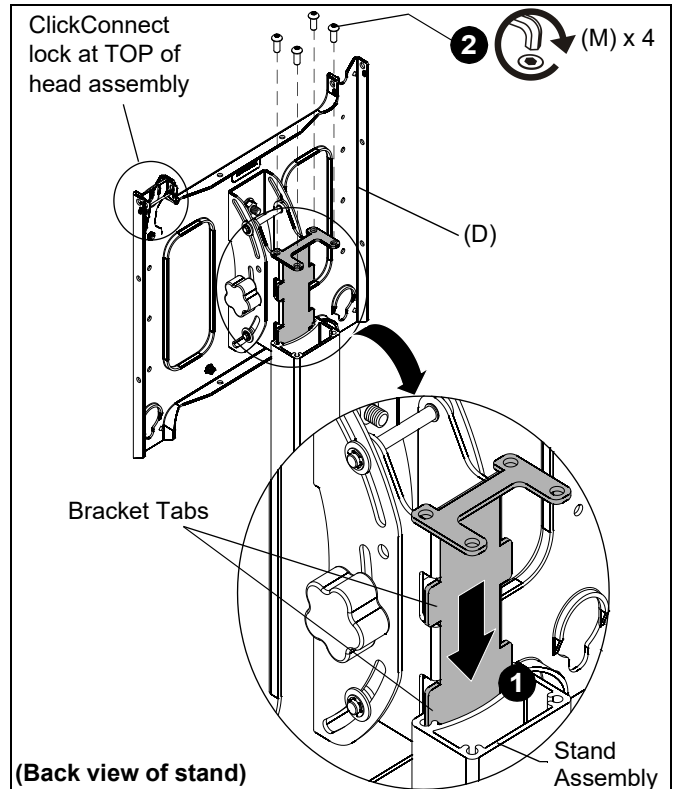

Figure 5
**IMPORTANT ! :** When attaching head assembly ensure that the ClickConnect lock is at TOP of head assembly, and bracket tabs slide into the stand assembly. (See Figure 5)
- Slide head assembly (D) into the stand assembly. (See Figure 5)
- Attach head assembly to stand using four 5/16-18 x 3/4" button head cap screws (M). (See Figure 5)
**IMPORTANT ! :** When attaching front head assembly ensure that the ClickConnect lock is at TOP of head assembly, and bracket tabs slide into the stand assembly. (See Figure 5)